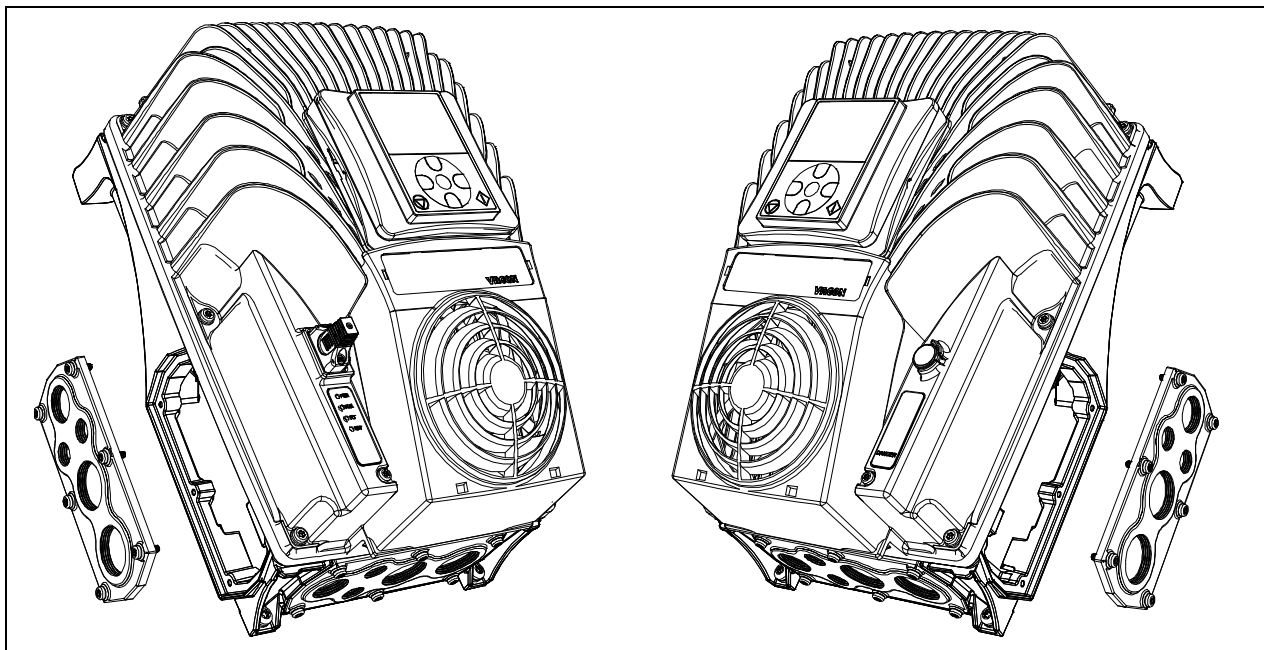

Figure 32. Disconnect the cable entry plate: example for MM5.
- Remove the cable entry plate from the drive on the left-hand-side if the mains switch must be mounted on this side. Otherwise remove the cable entry plate from the right-hand-side. See the Figure 32.